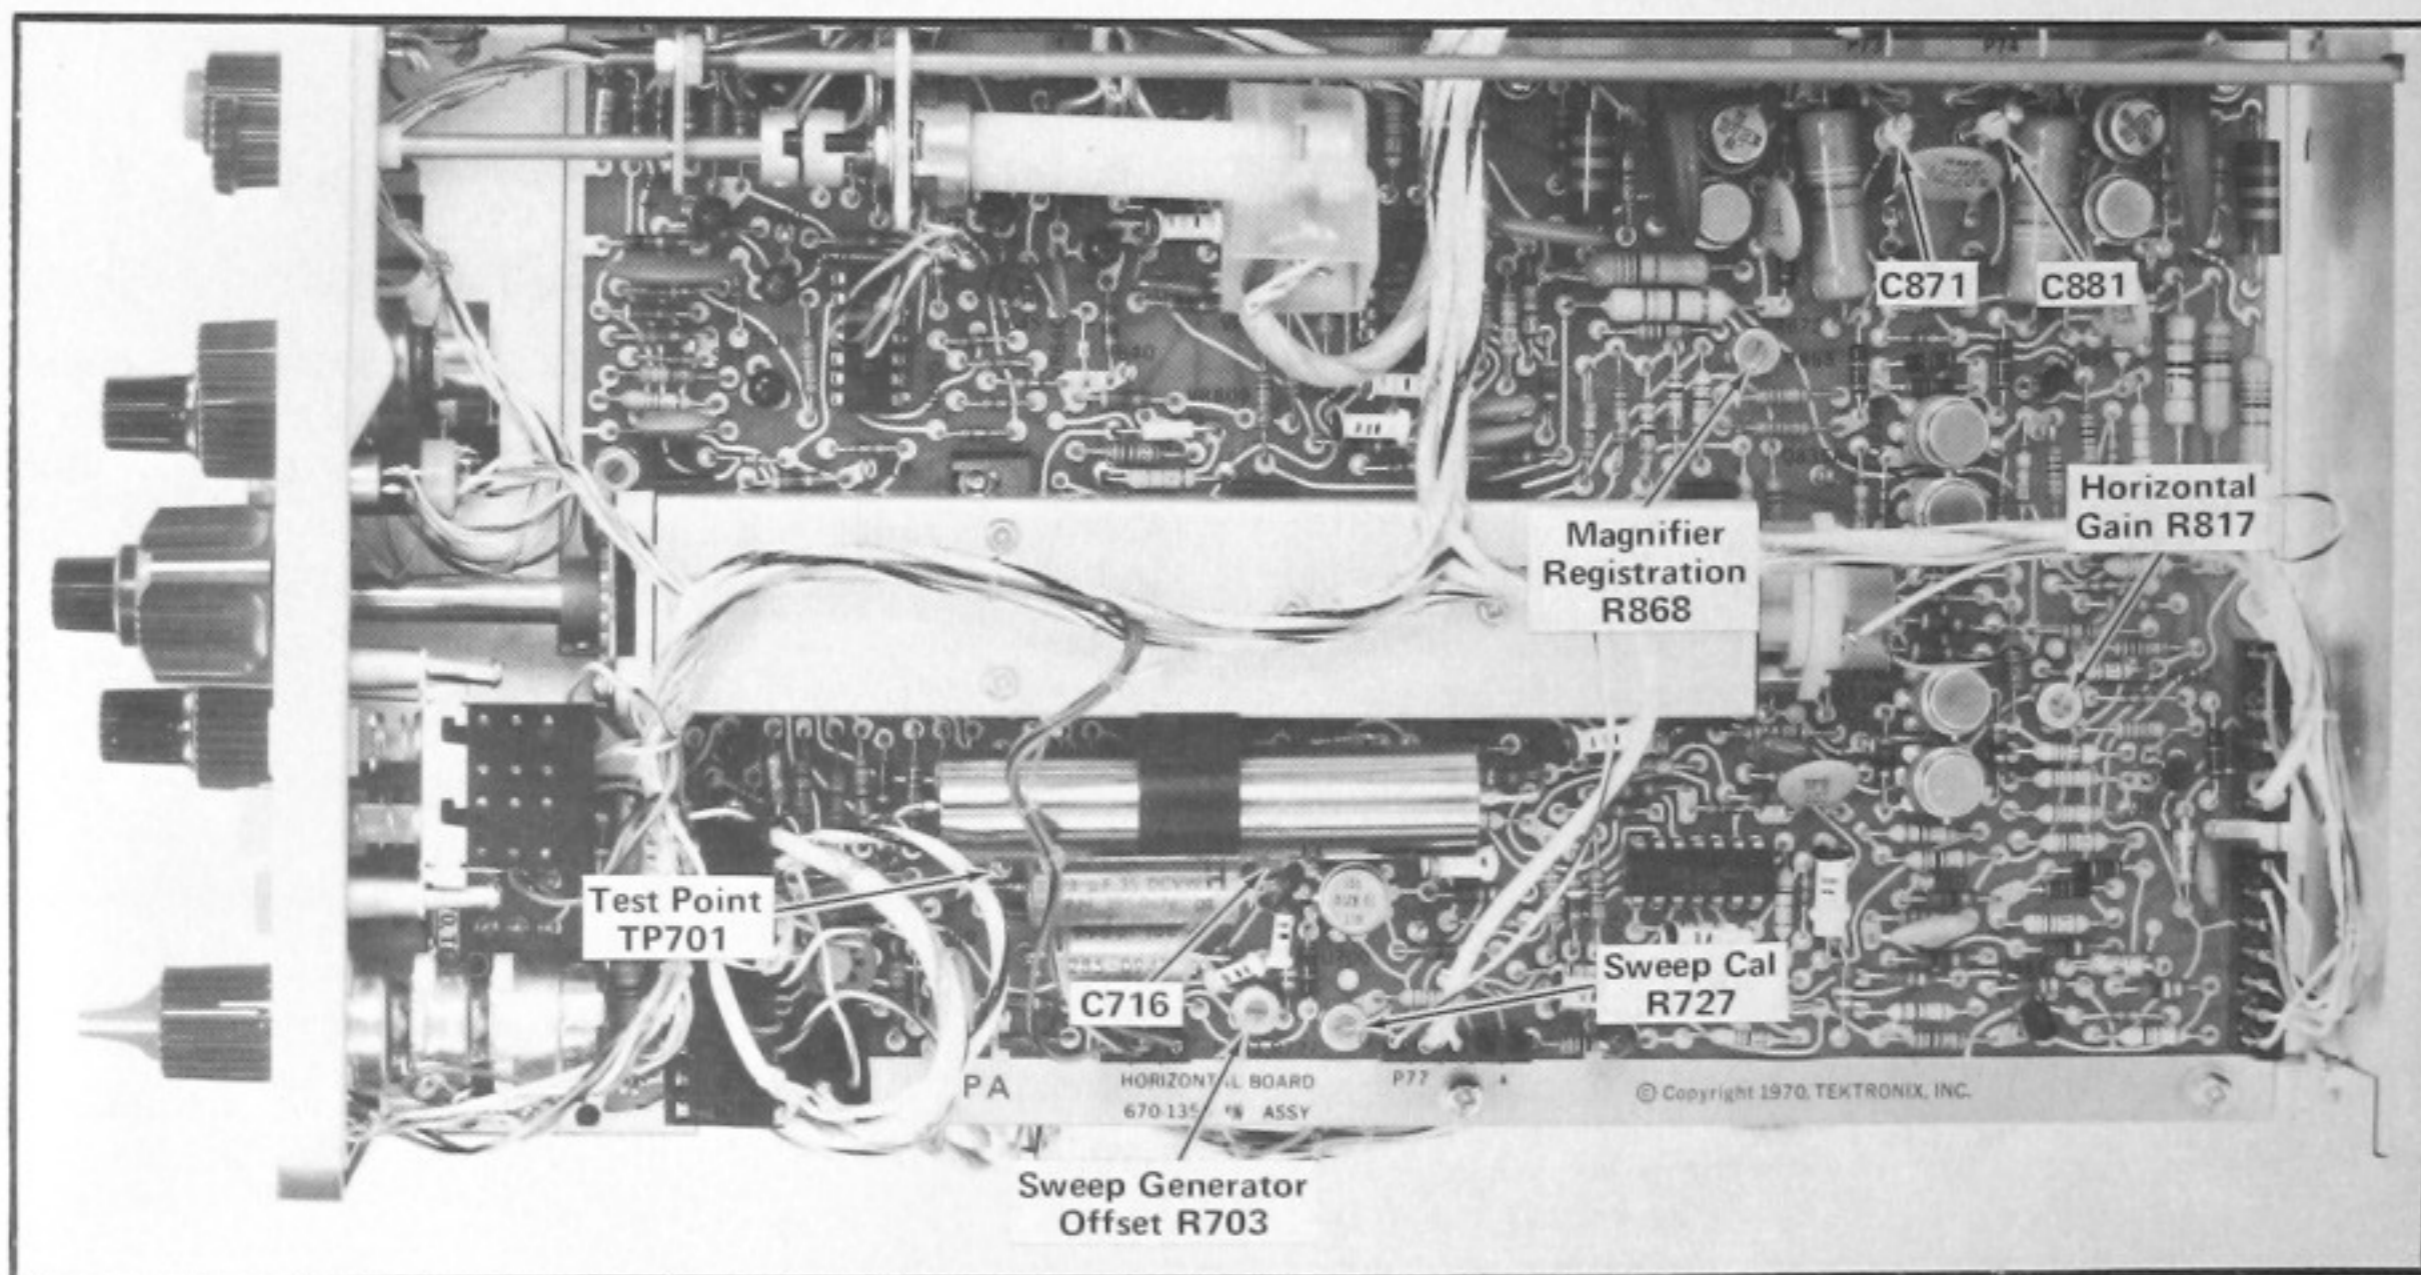

Fig. 5-11. Location of horizontal system adjustments and test points.
- b. Connect the tip of the 1X probe to TP701 (see Fig. 5-11).
f. ADJUST—Sweep Generator Offset adjustment R703 (see Fig. 5-11) to center the test oscilloscope display around the 0 V DC reference level.
- f. ADJUST—Sweep Cal adjustment R727 (see Fig. 5-11) for a sweep duration of 11 milliseconds.
- c. ADJUST—Horizontal Gain adjustment R817 (see Fig. 5-11) for one one-millisecond time mark per division.
f. ADJUST—Magnifier Registration adjustment R868 (see Fig. 5-11) to align the middle time mark with the center vertical graticule line.
- d. ADJUST—C716 (see Fig. 5-11) for two time marks per division.
h. ADJUST—C871 and C881 (see Fig. 5-11) for best timing and linearity excluding the first and last two divisions of the magnified sweep.
k. ADJUST—C871 and C881 (see Fig. 5-11) as necessary for the best compromise of timing and linearity between 1 μs with 50X magnification and .2 μs with 10X magnification.